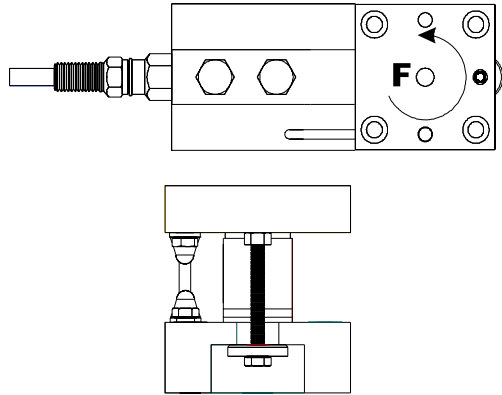

FIG. 1: FIXED PIN LOAD POINT
The HI LPB Free Sliding Load Point System is designed for use on medium capacity vessels. The pre assembled Free Sliding Load Point System consists of three (3) different low profile mount types (See Figs. 1,2,3) specifically designed to eliminate the effects of unwanted forces and resulting in exceptional load measuring accuracy.